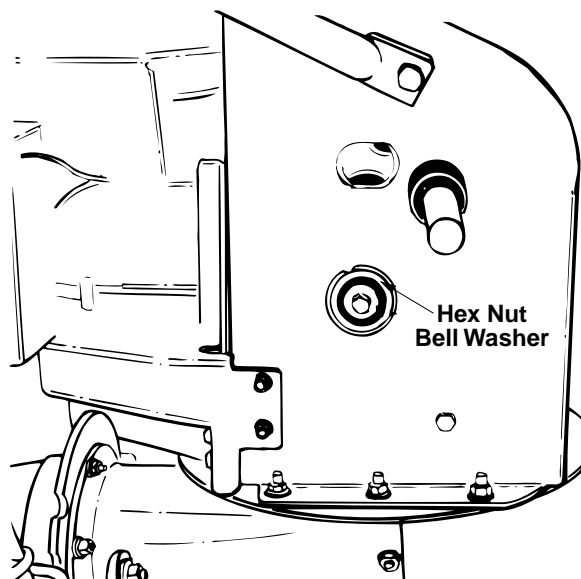

Figure 33
5. Using a 7/8" wrench to hold the shaft, loosen, but do not completely remove, the hex nut and bell washer on the left end of gear shaft. See Figure 33.